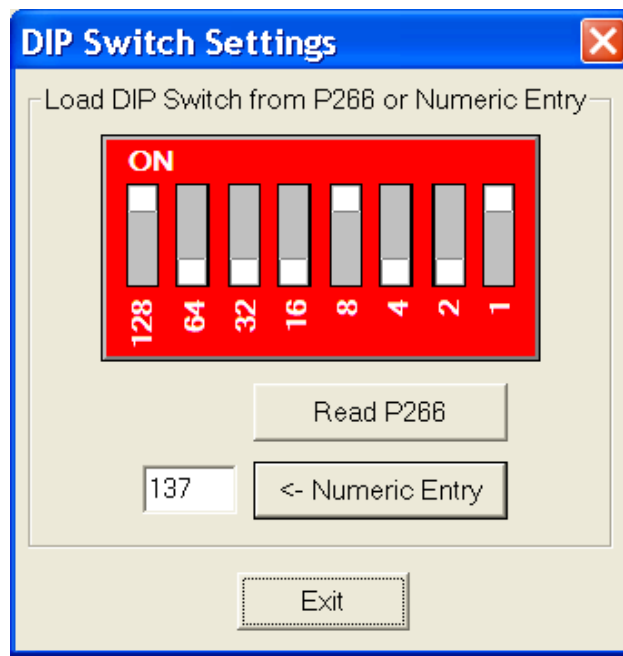

Figure 13: Numeric Entry
- **Numeric Entry:** Clicking this button causes the value entered in the entry field to be displayed as its equivalent value on the DIP switch. In the example shown in Figure 13, a value of **137** was entered and then **Numeric Entry** was clicked.